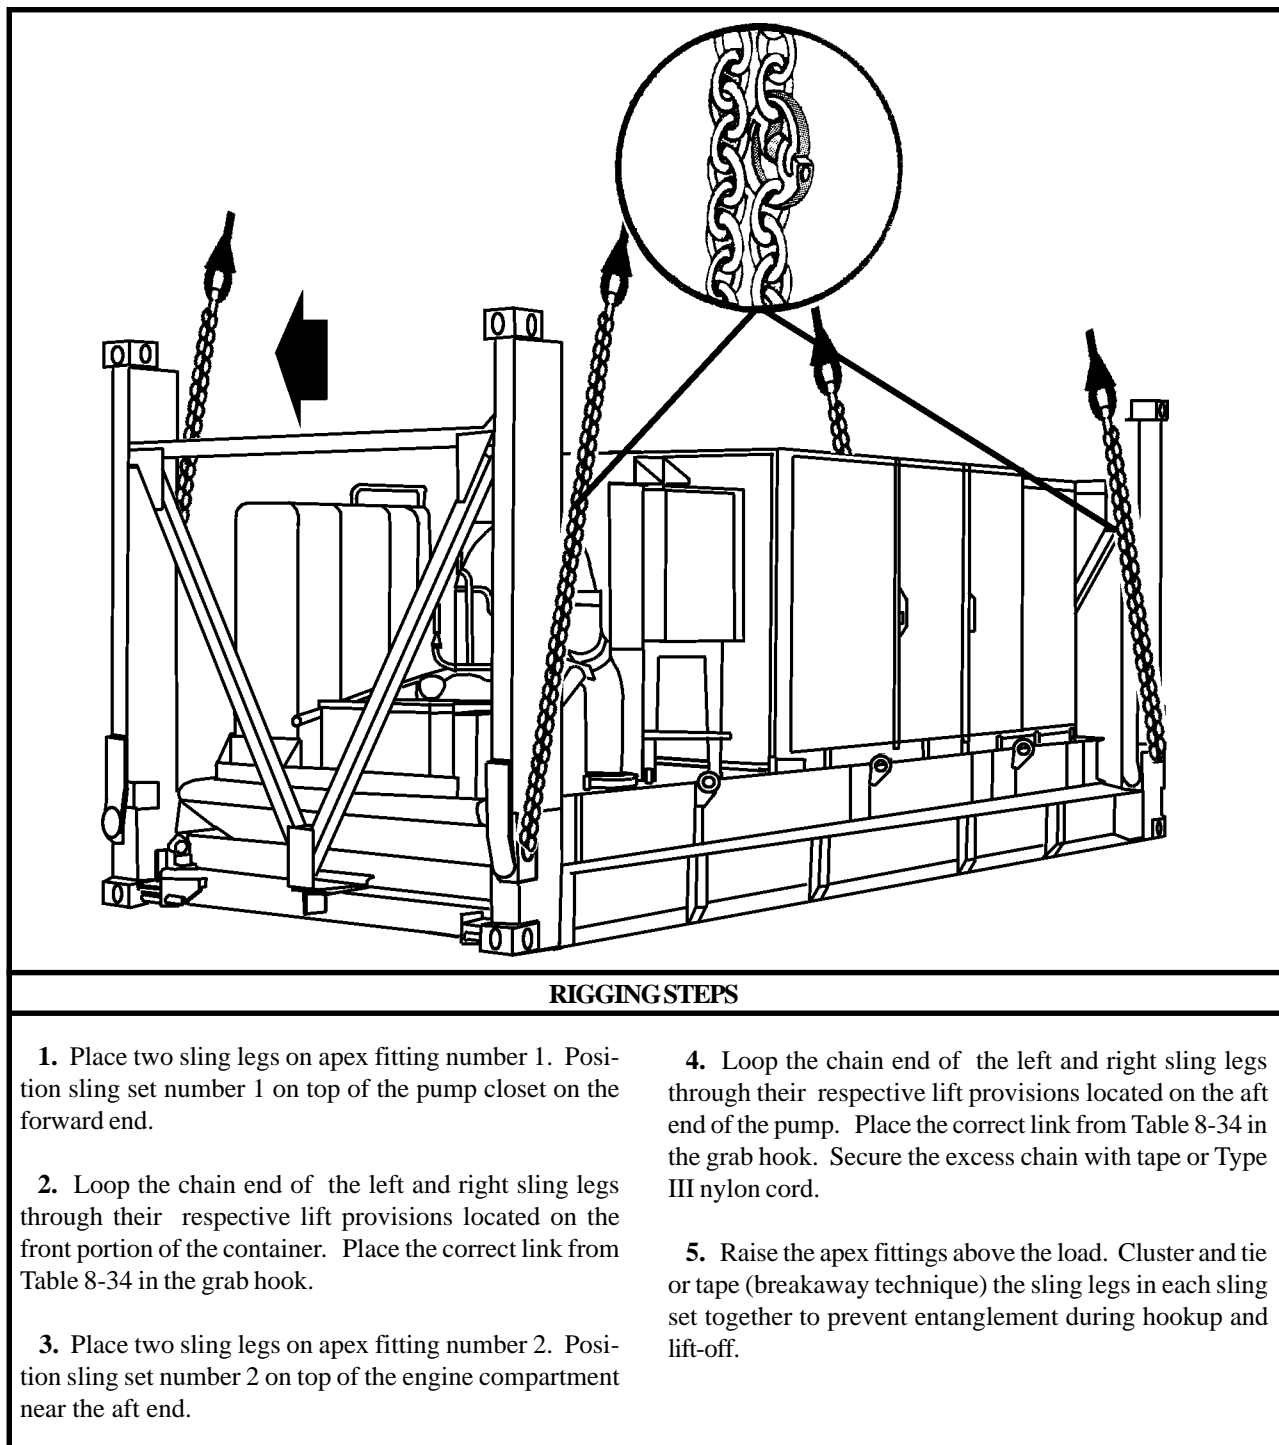

Figure 8-34. Inland Petroleum Distribution System (IPDS), Mainline Pump on 20-Foot Flatrack
(2) **Rigging.** Rig the load according to the steps in Figure 8-34.